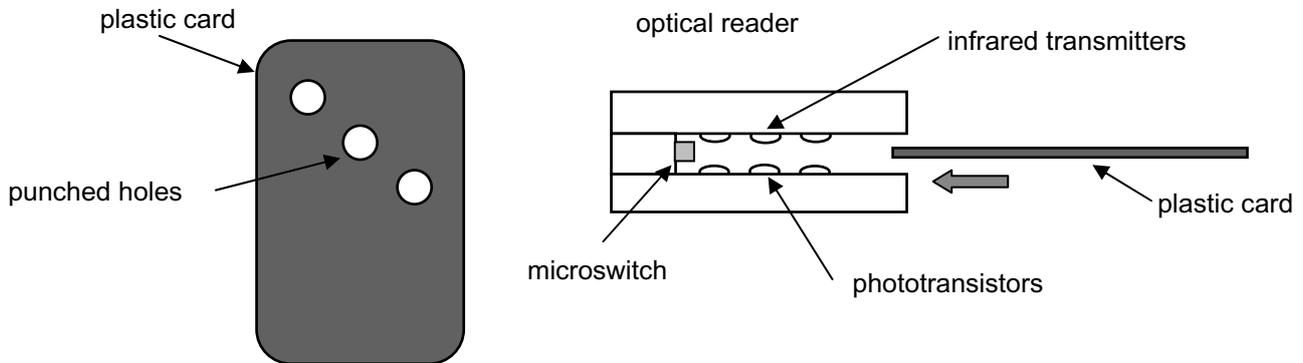

Fig. 2(d)
- (ii) Using an annotated circuit diagram, show how the 3 transmitters and phototransistors in **Fig. 2(d)** could be connected to provide a logic input to a circuit. The circuit should provide a “low” input when a plastic card with the correctly positioned punched holes allows all 3 phototransistors to operate when it is inserted into the optical reader. [5]